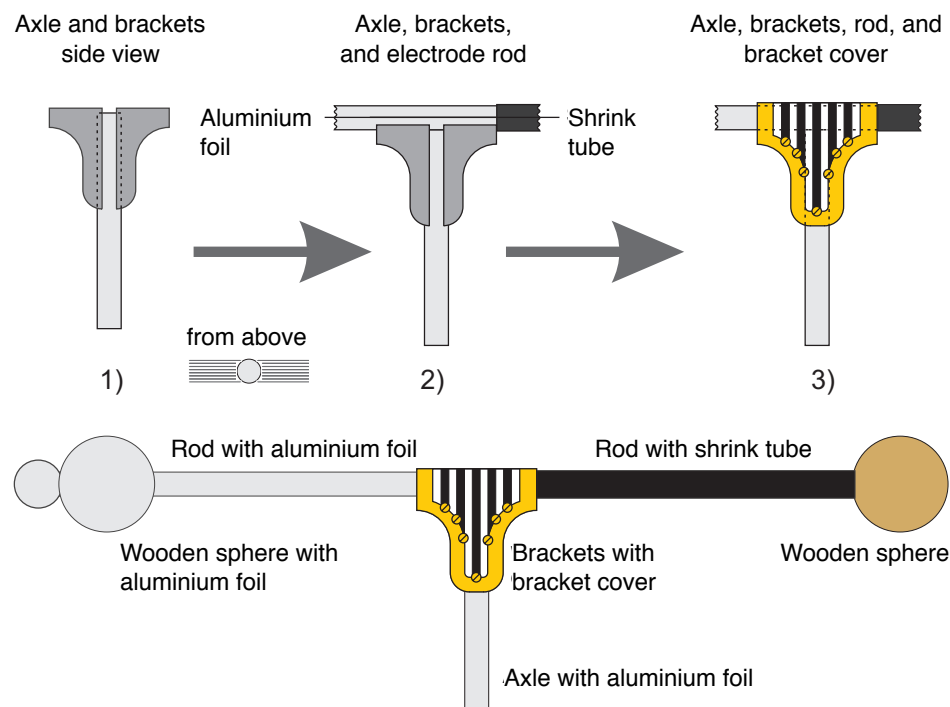

Fig 10: Spherical electrode
Glue the slightly larger pieces [Q11 and Q12, Bogen 7] on top and underneath the block, so that the curved sides are flush with the curved side of the block. The two straight edges then protrude by about 1mm. The resulting channels will house the wooden rods (see Fig 10).
**Step 108:** Place the two blocks next to each other on your worktop with the axle in between (see Fig 10). The axle then is housed in the longer channels of the brackets. The aluminium covered end of the axle needs to be flush with the channels of the shorter edges, to ensure proper electrical contact with the long rod